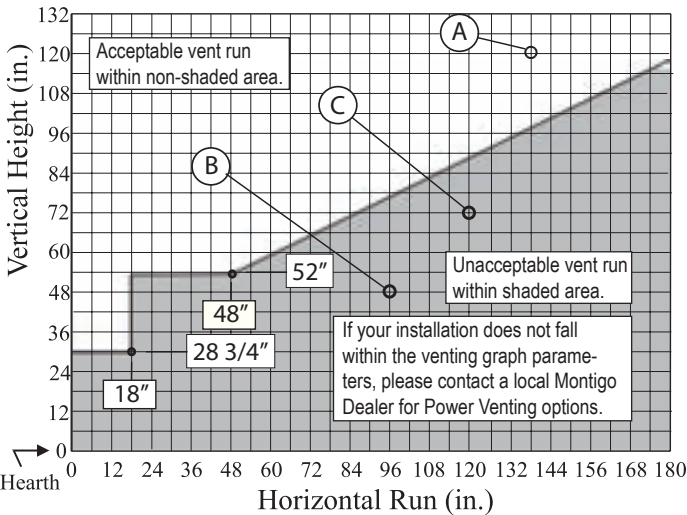

Figure 14. Rear Vent Venting Graph for wall mounted terminations.
- Venting runs *must* fall within the limits set by the venting graphs, see **Figure 14**.
Measure the vertical height from the fireplace hearth to the centre of the termination and the horizontal run from the fireplace flue collar to the wall flange of the termination. Plot on the Venting Graph **Figure 14** with an 'X'. If the 'X' falls on or above the top boundary of the shaded area, the installation is acceptable.
Figure 14b. Rear Vented, wall mounted Multi-elbow termination installation. Installation for H*38DF* must have a minimum vertical rise of 52". The vent run must comply with the Venting Graph for Rear vent, wall mounted terminations, Figure 14.